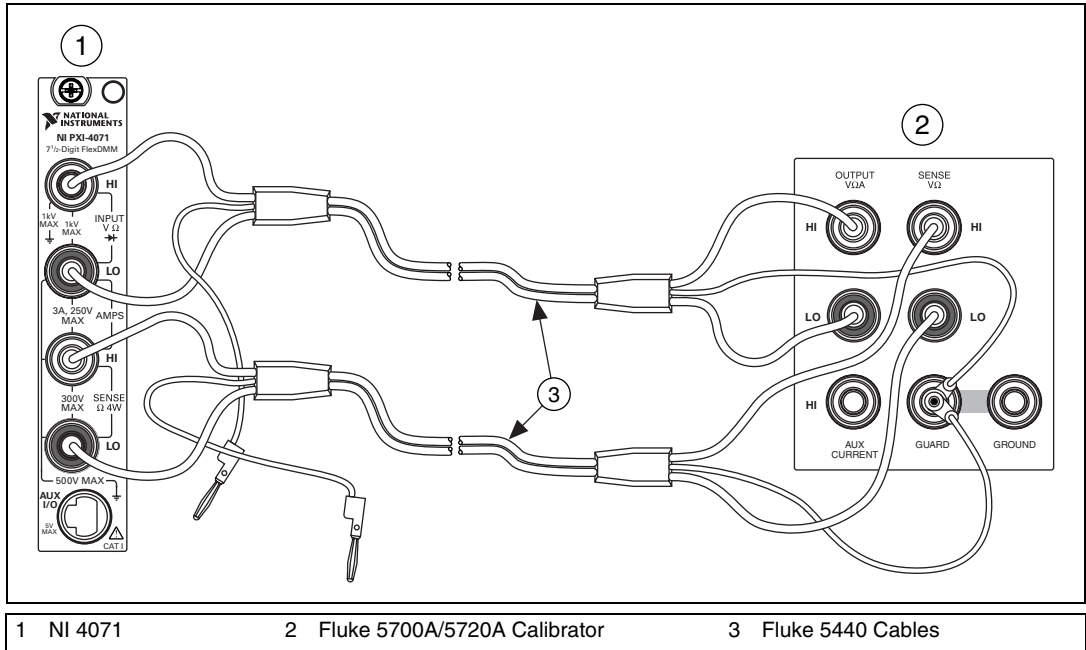

Figure 2. Cable Connections for 4-Wire Resistance
2. Connect the NI 4071 and the Fluke 5700A/5720A calibrator using the Fluke 5440 cables, as shown in Figure 2. Table 7 lists the cable connections.